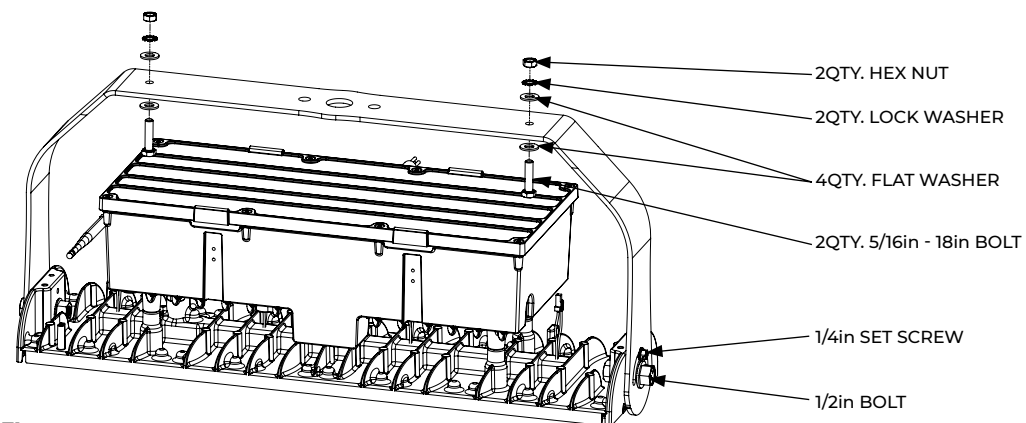

Figure 11.
1. Loosen and remove the existing (4) 8-32 screws on the face of the fixture (Fig 11).
2. Align (4) 7/8 inch long spacers with existing holes (4).
3. Use (4) 8-32 x 1-1/2 inch screws to secure vandal shield on top of fixture.